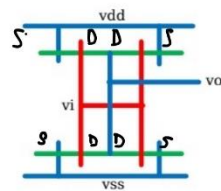

Figure 26
2. Figure 26 is used in the standard inverter cell because it reduces the parasitic junction and wiring capacitance. Figure 26 uses less wire for Vo than Figure 27.